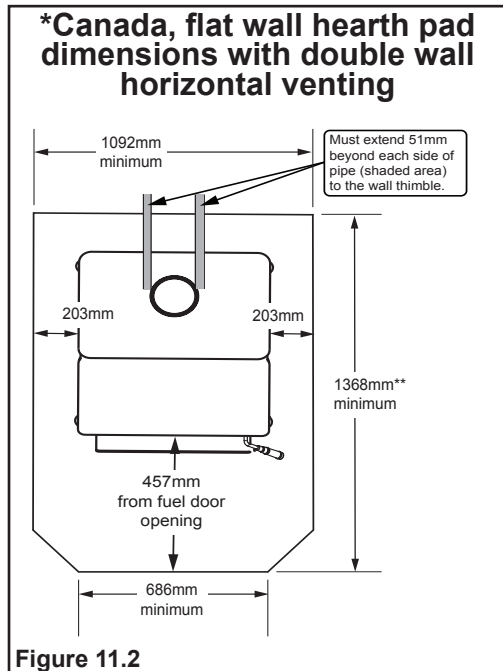

Figure 11.2
In Canada, similar floor protection must be provided 18 inches (457mm) in front and 8 inches (203mm) from the sides and rear of the appliance unless the hearth pad is placed against the wall (**Figure 11.2**). Then the clearance may be reduced using double wall pipe and the **Clearance to Combustibles** table listed on page 12.
***Exception:** Non-combustible floor protector must extend beneath the flue pipe when installed with horizontal venting and extend 2 inches (51mm) beyond each side; **See Figure 11.2**